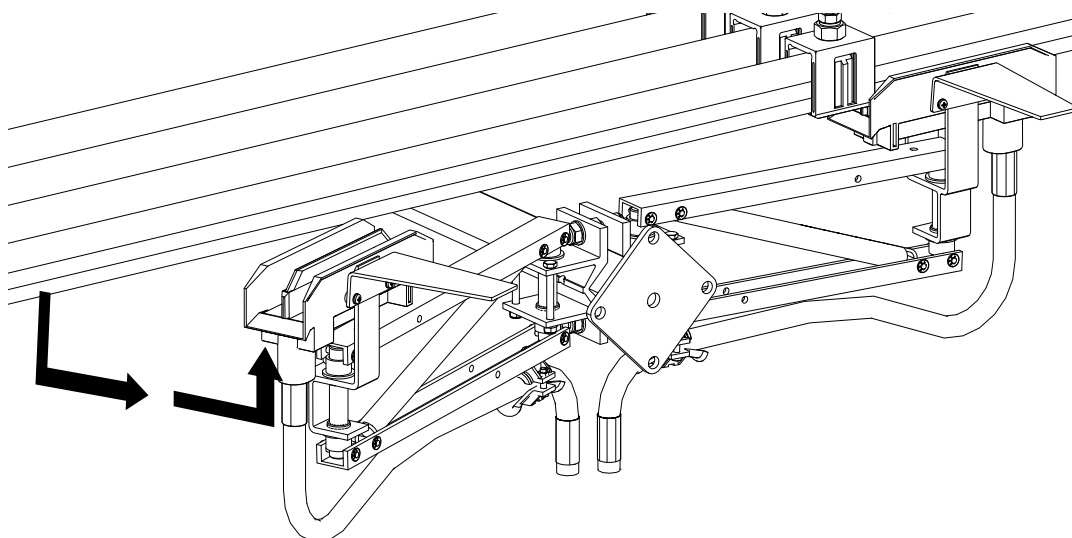

Fig. 124: Remove the current collector from the conductor rail
- Pull the current collector down and turn it out from the side to be able to remove the current collector from the conductor rail (see Fig. 124). In case of more than three poles, the current collector may have to be dismantled from the towing device.